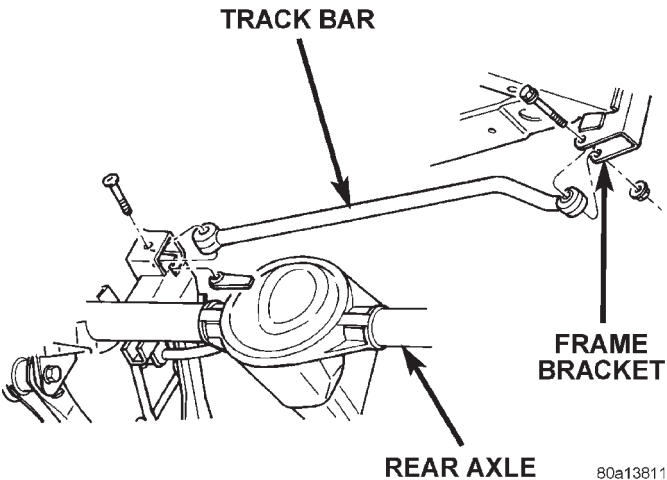

Fig. 7 Rear Track Bar
- (1) Raise and support the vehicle.
- (2) Remove the bolt and nut from the frame rail bracket (Fig. 7).
- (3) Remove the bolt from the axle bracket (Fig. 7) and remove the track bar.